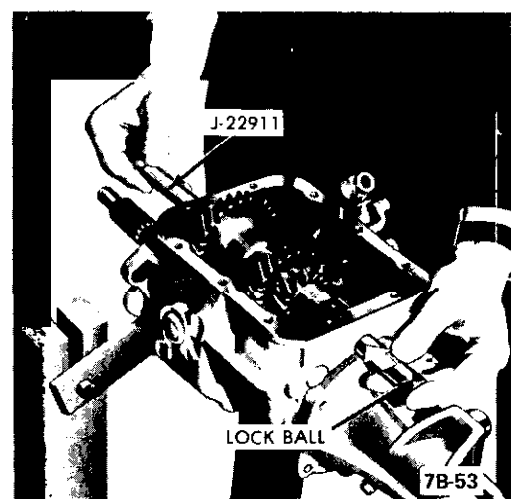

Figure 7B-53 Installing Countergear Shaft
5. Insert gear unit countershaft into gear unit and drive shaft into transmission case while driving out Special Tool J-2291 1. Pay attention to lock ball. See Figure 7B-53.